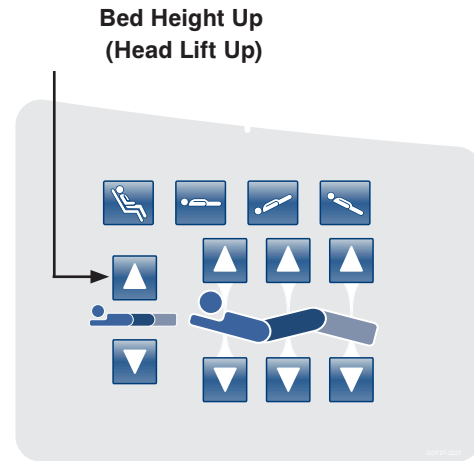

Figure 17: Head Siderail Control Panel - (Right Side Shown)
17. Place the bed at -12 degrees Reverse Trendelenburg by pressing the **Bed Height Up (Head Lift Up)** button as shown in Figure 17 below. Verify -12 degrees \pm 0.1 with the inclinometer you previously placed on the bottom of the litter frame in step 9.